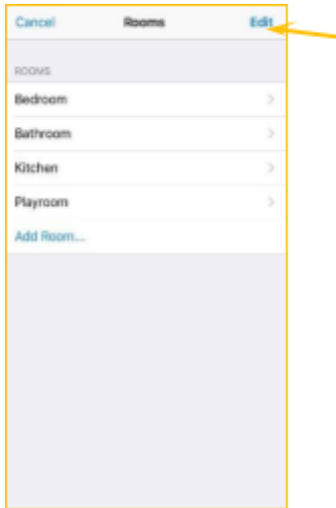

Figure 38
**10.9.4.** Click **Edit** to delete the room (Fig. 38).